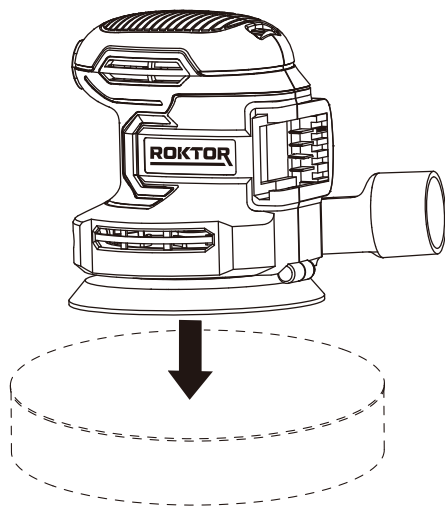

Figure 4
4. USING THE POLISHING PAD (NOT SUPPLIED) (SEE FIG. 4)